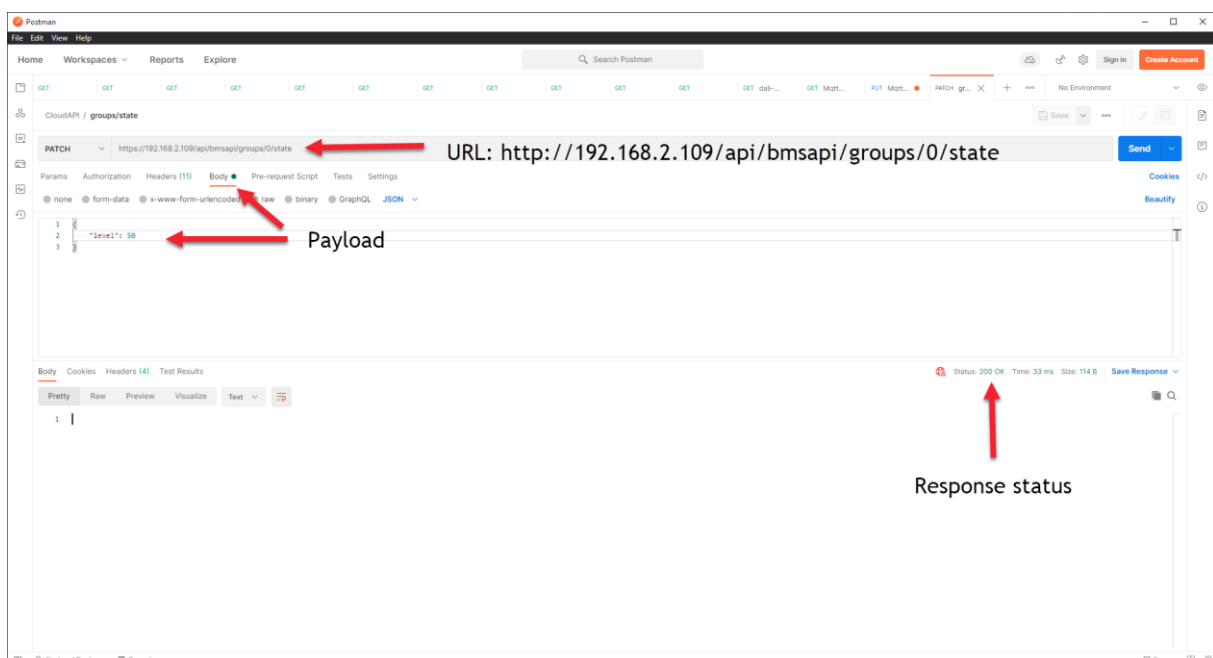

Figure 12
6. The connected lights, belonging to the chosen group, should dim to 50% and response status should be *200 OK* (see Figure 12).